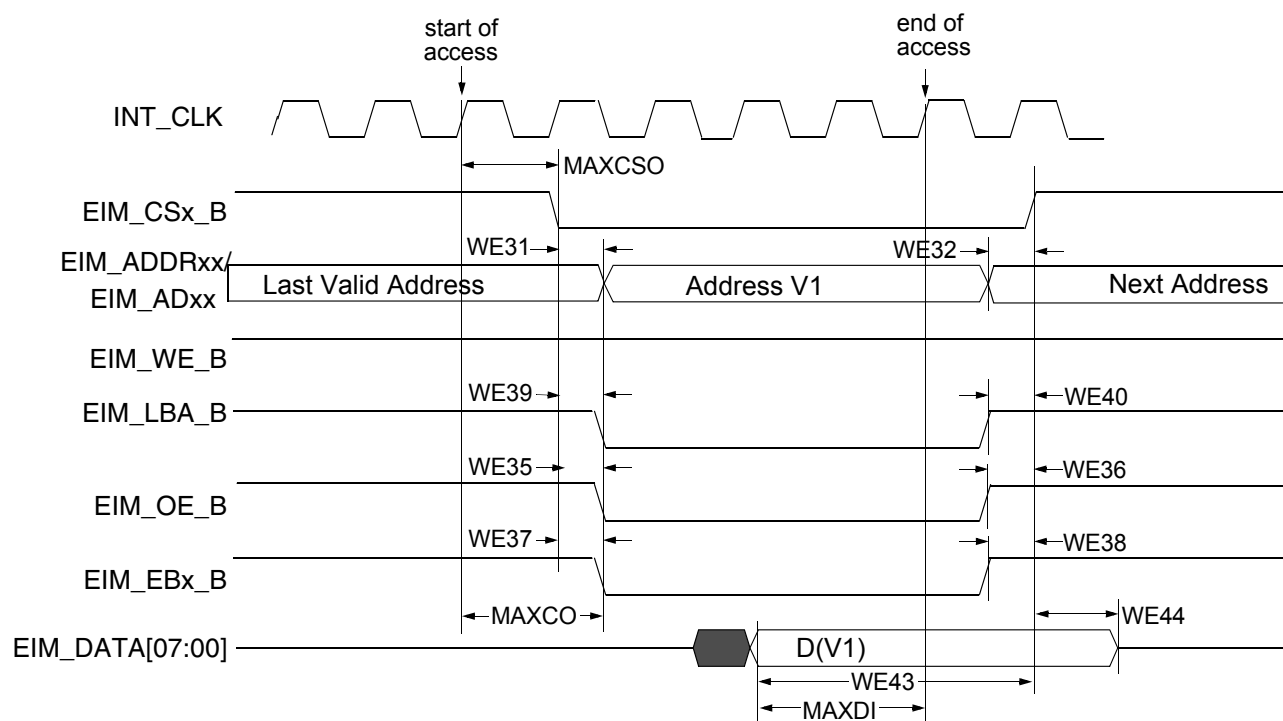
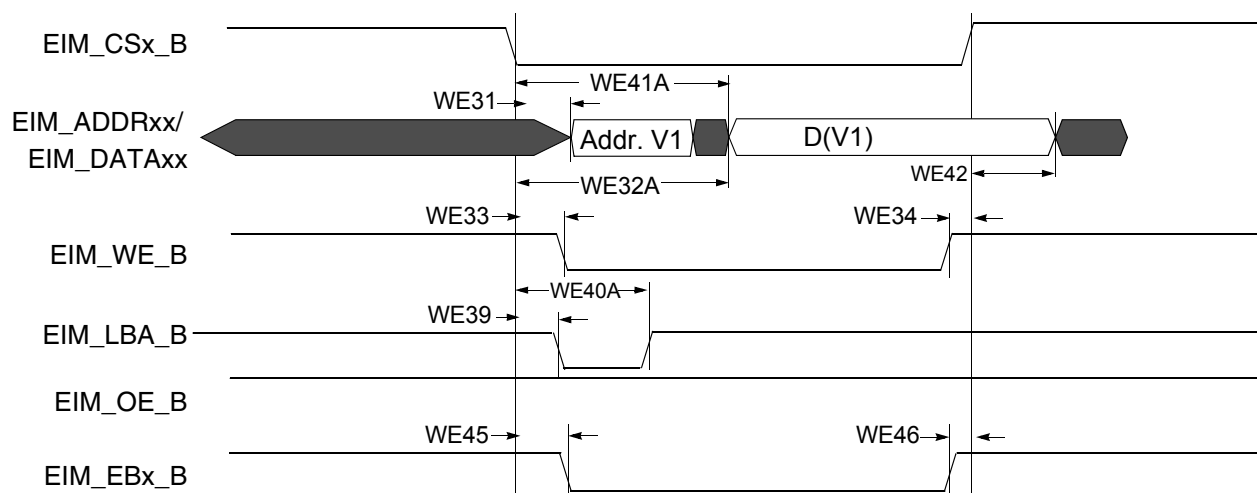
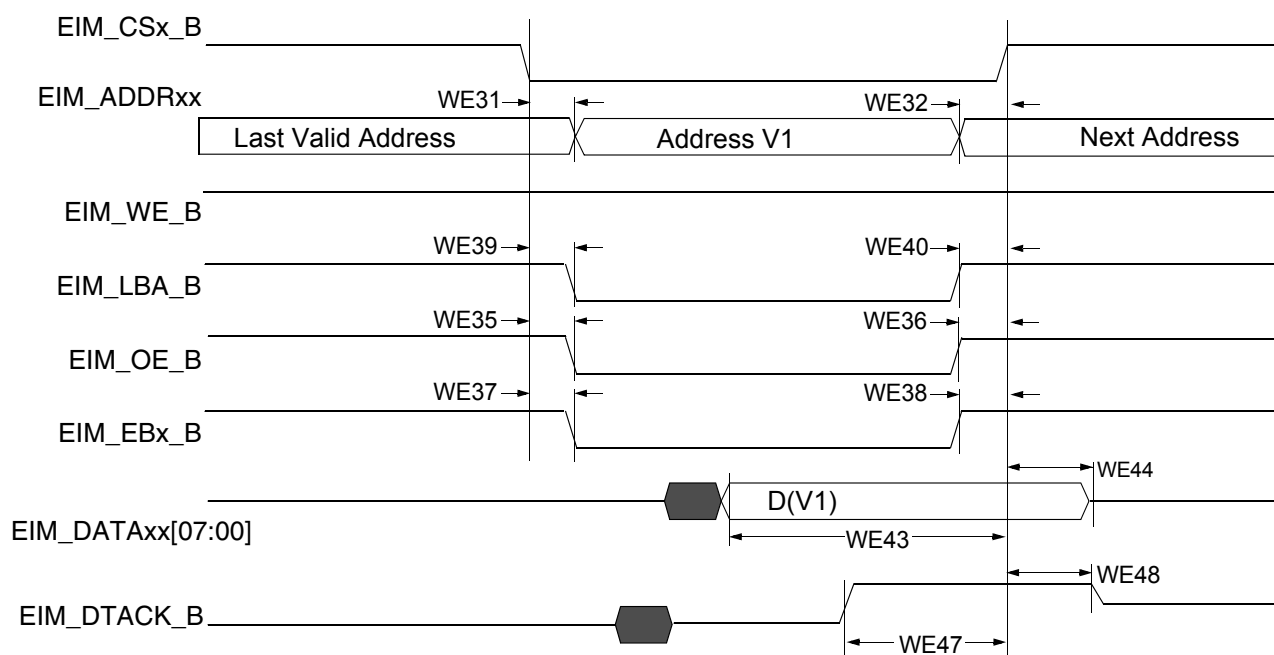

Figure 16. Asynchronous Memory Read Access (RWSC = 5)
Figure 19. Asynchronous A/D Muxed Write Access
Figure 20. DTACK Mode Read Access (DAP=0)
Figure 16 through Figure 20 and Table 38 provide timing parameters relative to the chip select (CS) state for asynchronous and DTACK EIM accesses with corresponding EIM bit fields and the timing parameters mentioned above.
Asynchronous read and write access length in cycles may vary from what is shown in Figure 16 through Figure 19 as RWSC, OEN & CSN is configured differently. See the i.MX 6Dual/6Quad reference manual (IMX6DQRM) for the EIM programming model.